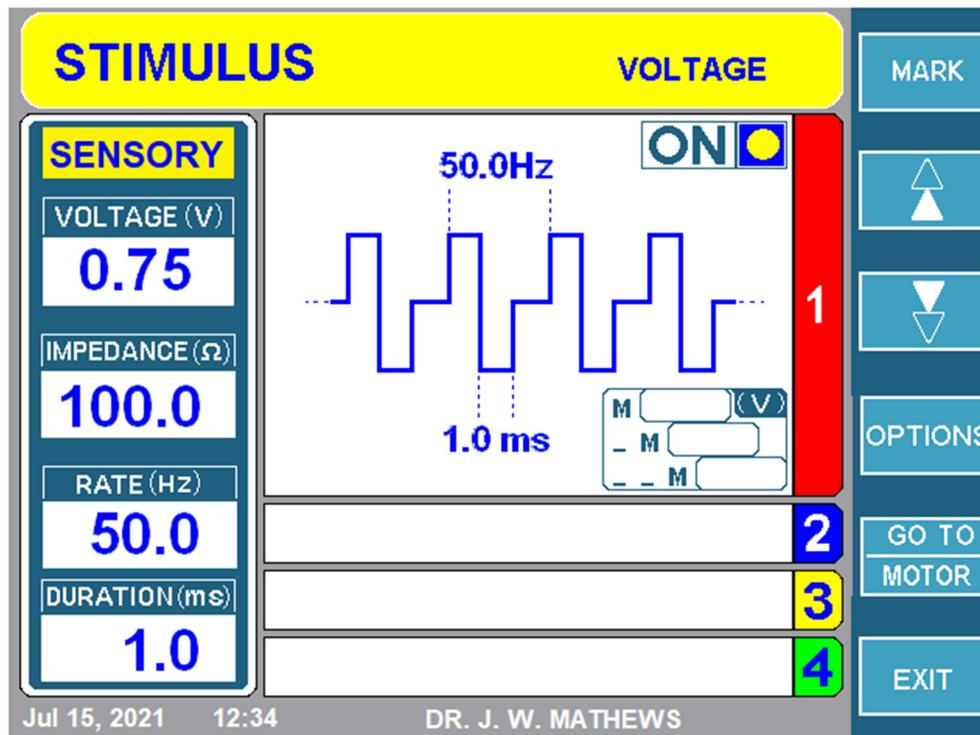

Figure 8-4
Step 3: Press the START button on the front panel to initiate the stimulation. Figure 8-4 illustrates a Sensory Stimulation being applied to the probe connected to channel 1.